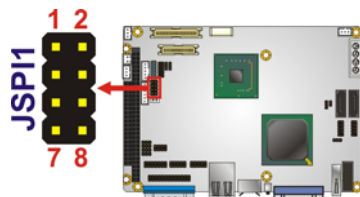

Figure 3-24: SPI Flash Connector
- CN Location:** See **Figure 3-24**